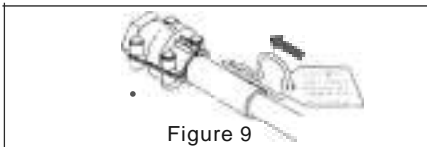

Figure 9
**STEP 3.** Replace pin as shown in Figure 9, making sure that it is fully seated. DO NOT REMOVE TAG FROM PIN.
**STEP 3.** Replace pin as shown in Figures 9 and 10, making sure that it is fully seated. DO NOT REMOVE TAG FROM PIN.
**STEP 4.** Replace the pins as shown in Figure 9, making sure that they are fully seated. If one pin cannot be inserted, that cable is not fully seated in the helm. Push on the cable to ensure that it is fully home. DO NOT REMOVE TAGS FROM HITCH PINS.